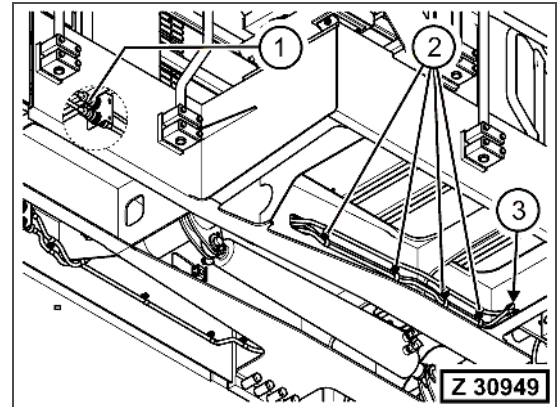

Fig. 3-481
7. Install the wire harness through the cable feed-through (Fig. 3-481, Pos. 3).
8. Install all clamps (Fig. 3-481, Pos. 2) along the wire harness and attach the wire harness at the platform.
9. Re-plug harness connector (Fig. 3-481, Pos. 1).